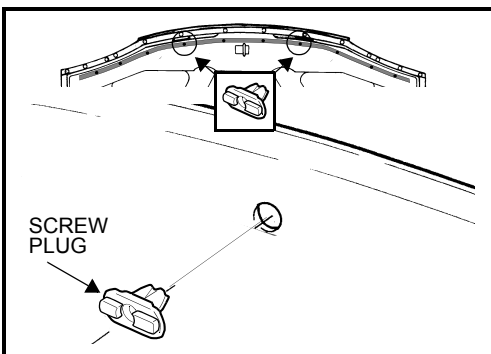

Figure 3.
3. Insert the light colored screw plugs provided in the previously marked two holes. Ensure the screw plug boss section is parallel with the front edge of the hood as shown in figure 3.